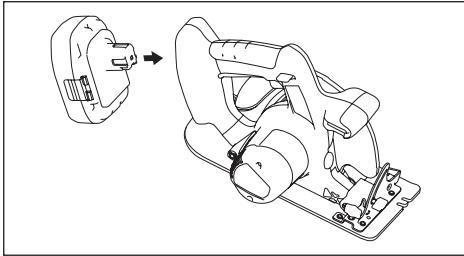

Fig. 2
1. To insert the battery pack: (See Fig.2)